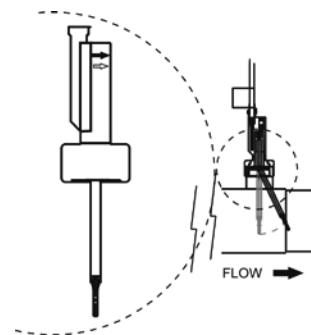

Fig. 3b
3. There is an arrow on the head of the flow detector. Make sure that this arrow is parallel to the pipe shaft and pointing in the direction that the water flows (Fig. 3b).